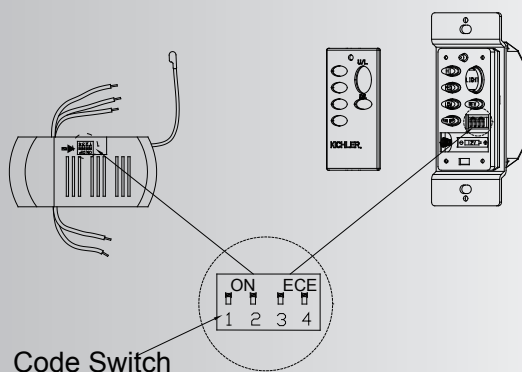

Fig. 25
**Step 3.** You can leave the frequency switches at the factory setting. Or you have to change the dip switch setting in the remote if you are using more than one fan in the same area and want to control them separately. Remove the battery and change the dip switch setting, assuring that they are different from the other fans. Reinstall the battery and switch plate on the control. (Fig. 25)